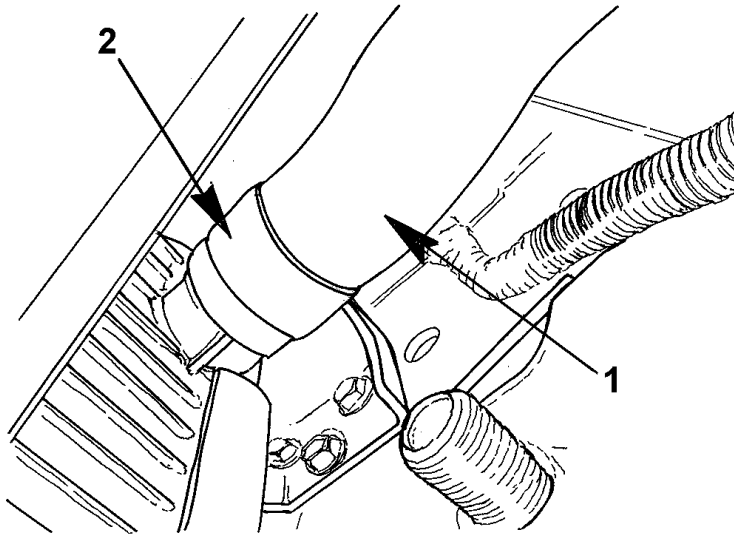

Figure 14 Lower Radiator Hose
1. Beginning on the driver side of the radiator, locate the radiator hose and Gates SB clamp (Items 1 and 2, Figure 14).